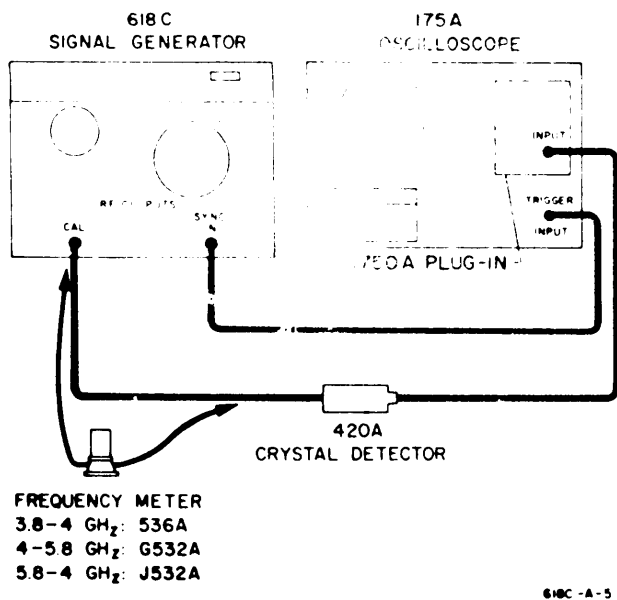
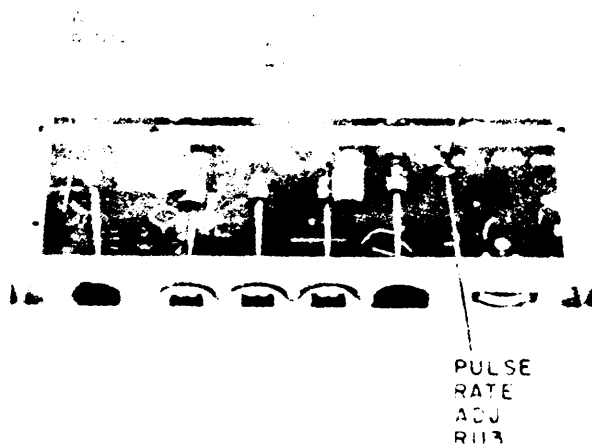
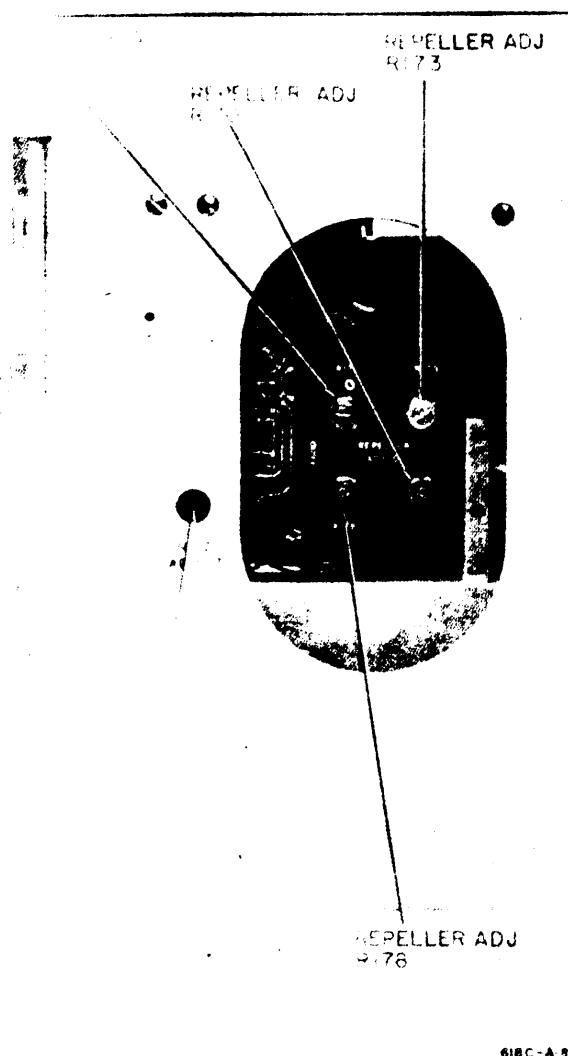
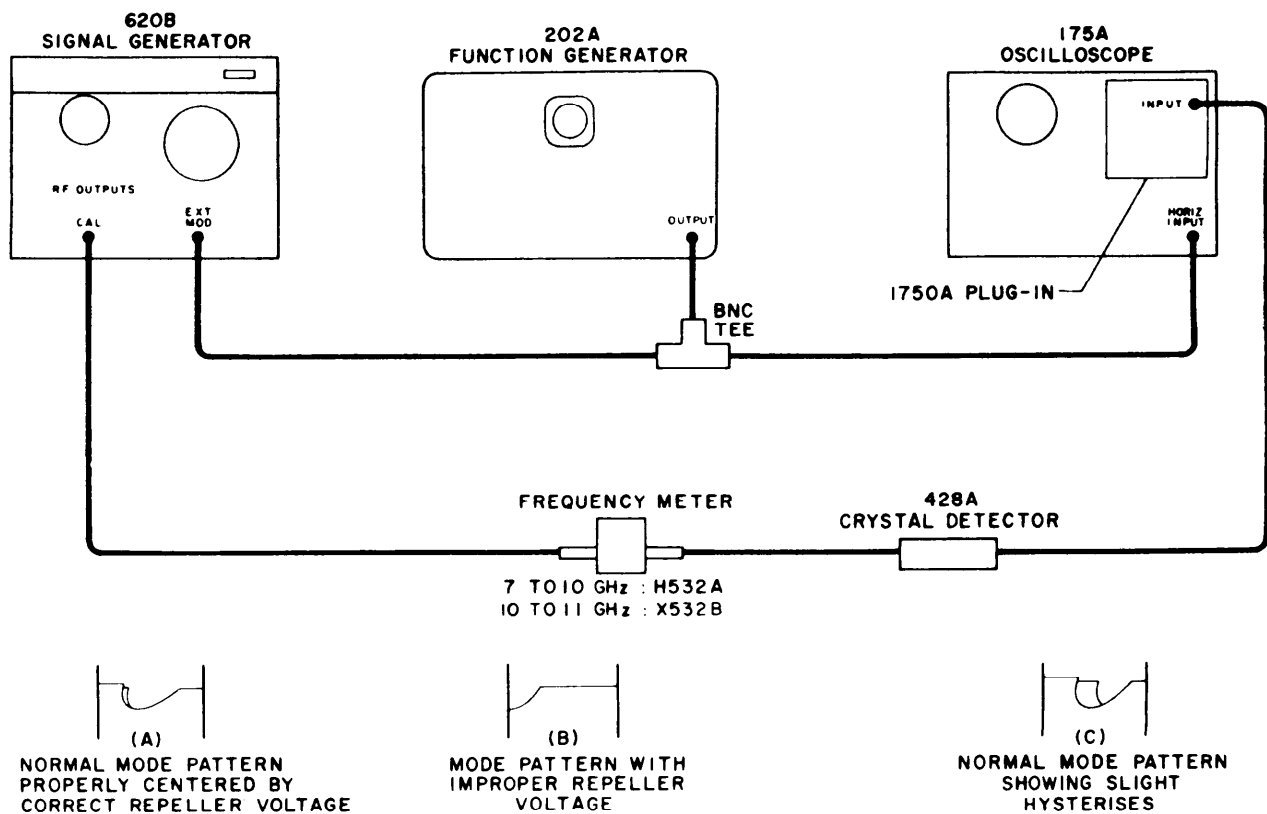

Figure 5-9. Setup for Frequency Dial Calibration (618C).
Figure 5-10. Location of Klystron and Modulator Adjustments (620B).
Figure 5-11. Location of Tracking and Power-Set Meter Adjustments.
Figure 5-12. Test Setup for Klystron Adjustment (620B).
- d. Connect instrument as shown in Figure 5-9.
- g. At this point it is advisable to check the dial calibration at the high end stop. This check avoids possible retracing adjustments when the dial calibration is adjusted later. To conduct the check, tune frequency control to high end stop and place wavemeter in circuit as shown in Figure 5-9. Wavemeter should indicate 7.650 GHz. When the wavemeter is tuned to the actual frequency of the generator a slight decrease in the peak level of the pulse appears on the scale. If this frequency is more than 25 MHz away from 7.650 GHz perform step d in paragraph 5-42.
- h. Remove wavemeter and reconnect output cable as shown in Figure 5-9. Tune the frequency control toward 5 GHz, adjusting R170 (Figure 5-10) for best pulse shape between 7.6 and 5 GHz.
- i. Tune the frequency control between 5 and 4.2 GHz; adjust R173 and/or R178 (Figure 5-10) for optimum pulse shape.
- d. Set MOD. SELECTOR to CW and measure klystron beam current with 428A Clip-on DC Milliammeter. Adjust potentiometer R706 (Figure 5-10) for 22-mA klystron beam current.
- e. Adjust POWER SET control to obtain up-scale indication on the power set meter. If necessary, adjust potentiometer R170 (Figure 5-11) to obtain proper meter indication. Recheck klystron beam current (25 ma maximum).
g. Connect Signal Generator in test setup shown in Figure 5-12.
h. Set MOD. SELECTOR to EXT FM and observe repeller mode pattern on Oscilloscope. Adjust OUTPUT ATTEN and external modulating voltage to obtain the desired vertical deflection on Oscilloscope. Adjust FM AMPLITUDE control to obtain humped waveform shown in Figure 5-12. If necessary adjust the phase of repeller mode pattern.
- (1) Turn off Instrument.
- (2) Loosen klystron mounting nut.
- (3) Rotate klystron slightly and make sure klystron is seated properly against shoulder in collet.
(4) Tighten klystron mounting nut by hand.
(5) Check to be sure that the repeller cable is not twisted and makes firm connection to repeller.
(6) Turn on Instrument and observe repeller mode patterns on oscilloscope.
- (2) Adjust Frequency Meter to 11.1 GHz.
- (3) Gently tap rear of plunger until Frequency Meter dip is centered on mode pattern.
- (4) Tighten plunger cap screw and replace bottom plate.
- (5) Set Frequency Meter to 11.1 GHz.
- (6) Adjust frequency dial until Frequency Meter pattern is centered on the mode pattern.
- (7) Loosen plunger cap screw.
- (8) Turn frequency dial to high frequency stop while holding plunger stationary.
- (9) Tighten plunger cap screw and replace bottom plate.
p. Tune Signal Generator across entire band and center repeller mode pattern with repeller tracking potentiometer R170, R173, R175, and R178 (Figure 5-9). Figure 5-12 (A and C) shows two typical mode patterns. Figure 5-12A shows a symmetrical mode pattern that is properly centered by the correct repeller voltage; Figure 5-12B shows the same pattern set off-center by incorrect setting of repeller voltage. Adjust potentiometer R170 and R178 (Figure 5-11) to obtain correct repeller voltage tracking between 11 GHz and the frequency just above the point where the microswitch is actuated (approximately 8.7 to 9 GHz). Adjust potentiometers R173 and R175 (Figure 5-11) to obtain correct repeller voltage tracking between the frequency just below the point where the microswitch is actuated (approximately 8.6 GHz) and 7 GHz.
a. Remove instrument cover for access to R612 (see Figure 5-11).
c. Adjust POWER SET until meter pointer is about 8 inch to the right of zero (0).